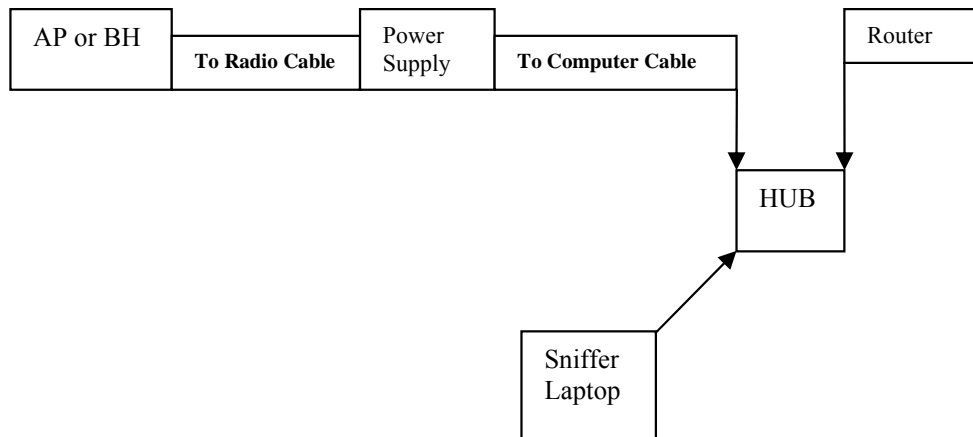

Figure 169: Protocol analysis at AP or BH not connected to a CMM
The configuration for analyzing traffic at an AP or BH that *is not* connected to a CMM is shown in Figure 169.
- as shown in Figure 169 on Page 460.